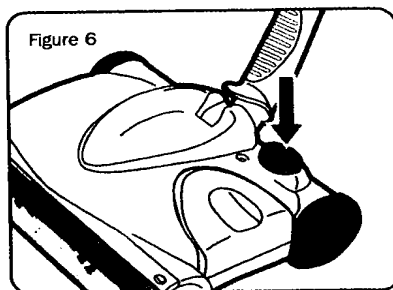

Figure 6
2. Push the On/Off Switch (2) to operate the unit and push again to stop (fig.6).